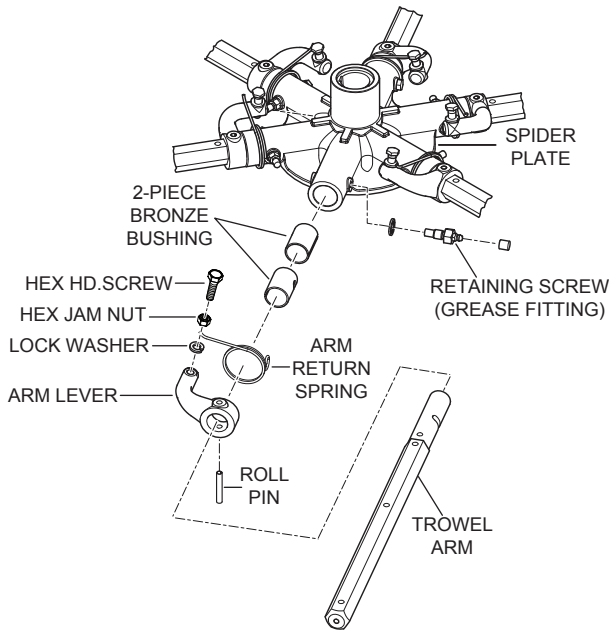

Figure 52. Remove Roll Pin and Zerk Fitting
- Each trowel arm is held in place at the spider plate (Figure 52) by a hex head bolt (zerk grease fitting) and a roll pin. Remove both the hex head bolt and the roll pin from the spider plate.